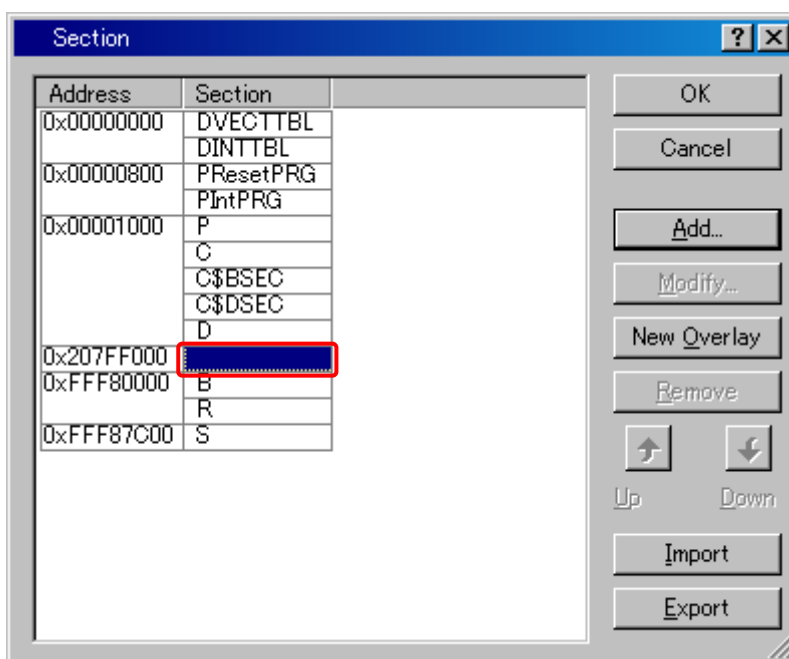

Figure 5.3.12 Section Settings (4)
- (4) The section address will be added and it returns to [Section] dialog box. Choose a blank section as shown in Figure 5.3.12, and click "Add".